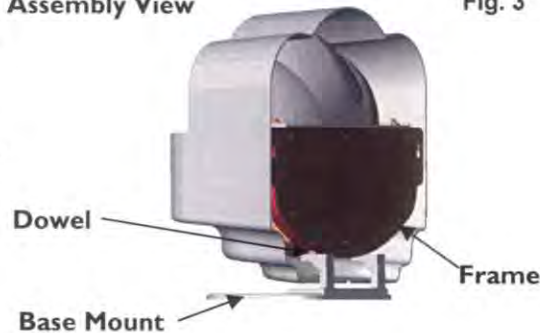

Fig. 3
3. Insert new lamp and firmly snap-in socket (see page 5, Fig. 3).
Base Mounted - Fig. 3
You may wall mount as a sconce or place on provided base mount as shown in Fig.3 Make sure frame is placed securely on both dowels and base mount is secure.